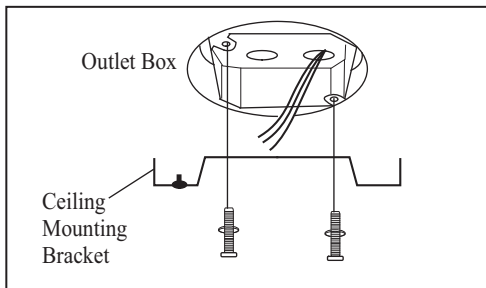

Figure 4
1. Attach the ceiling mounting bracket to the outlet box with two screws and washers provided with the outlet box. Make sure the bracket is tight and secured. (Fig. 4)